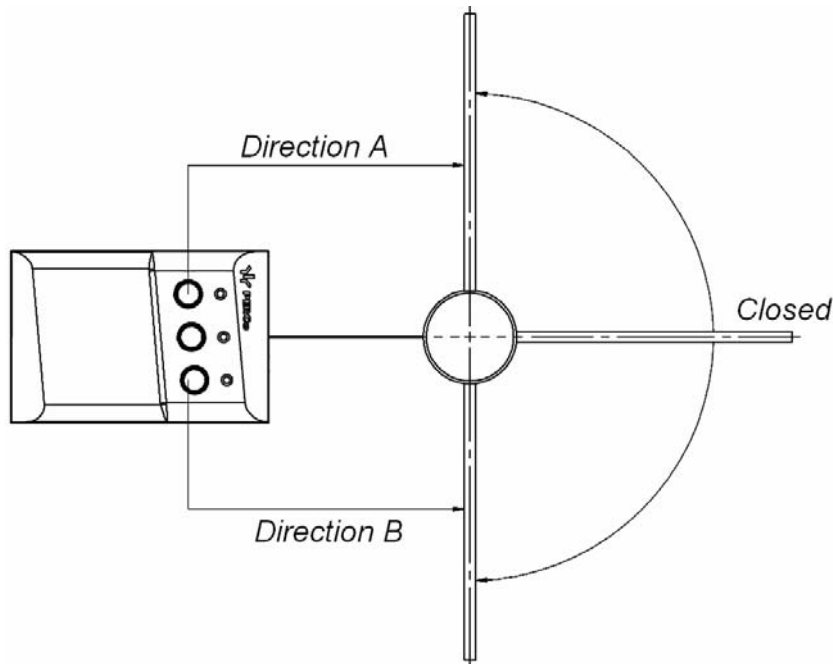

Figure 5. Standard orientation of RC panel relative to gate opening direction
- **FireAlarmDir** – connector is designed for selecting gate opening direction when the *Fire Alarm* emergency unlocking signal is applied. If the jumper is installed, the swing panel opens in direction A (see Figure 5), if the jumper is not installed, the swing panel opens in direction B. The jumper is installed by default.
The standard orientation of the RC panel in relation to gate opening direction is shown in Figure 5. The orientation of the RC panel buttons can be changed if necessary, in such case the connection of RC panel shown in Fig. 11 shall be changed by swapping the cable of the RC panel to **XT2** terminal block in accordance with Table 2.